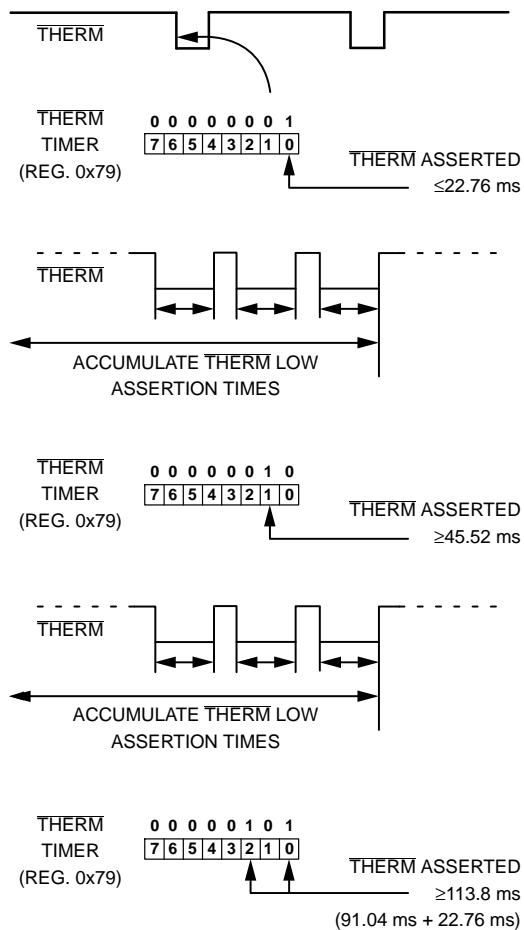

Figure 32. Understanding the  $\overline{\text{THERM}}$  Timer
45.52 ms, Bit 1 of the  $\overline{\text{THERM}}$  timer is set and Bit 0 becomes the LSB of the timer with a resolution of 22.76 ms (see Figure 32).